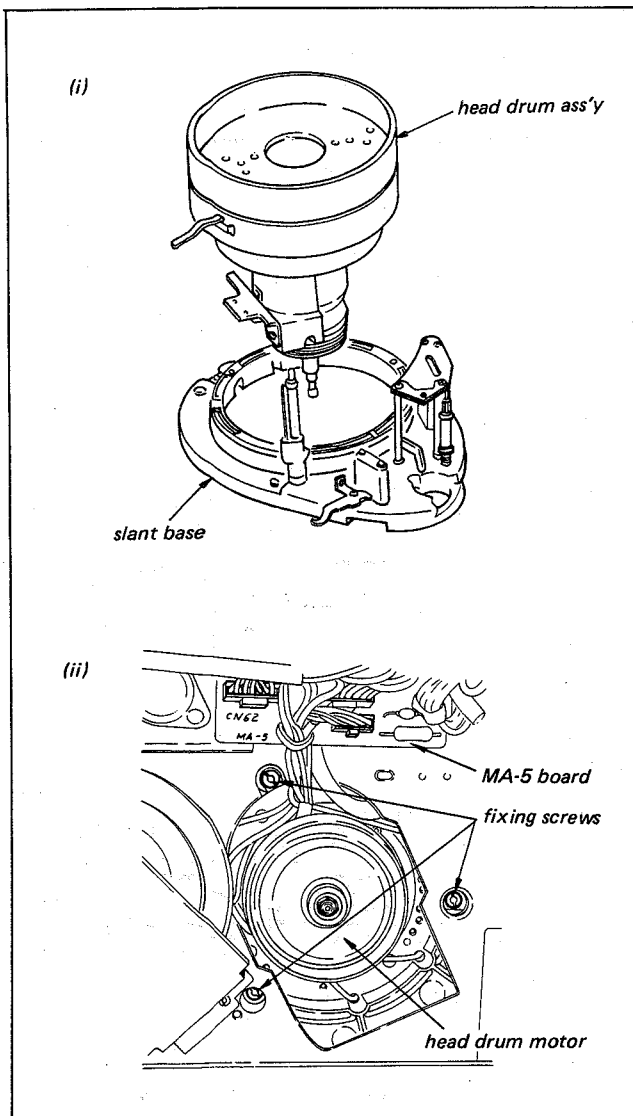

Fig. 3-2. Replacement of head drum ass'y
1. Disconnect the connectors CN-3 on PR-2 board (from video heads) and CN61, CN62 on MA-5 board (from P.G. and drum motor drive). Remove the three screws shown in Fig. 3-2, and remove the defective drum.